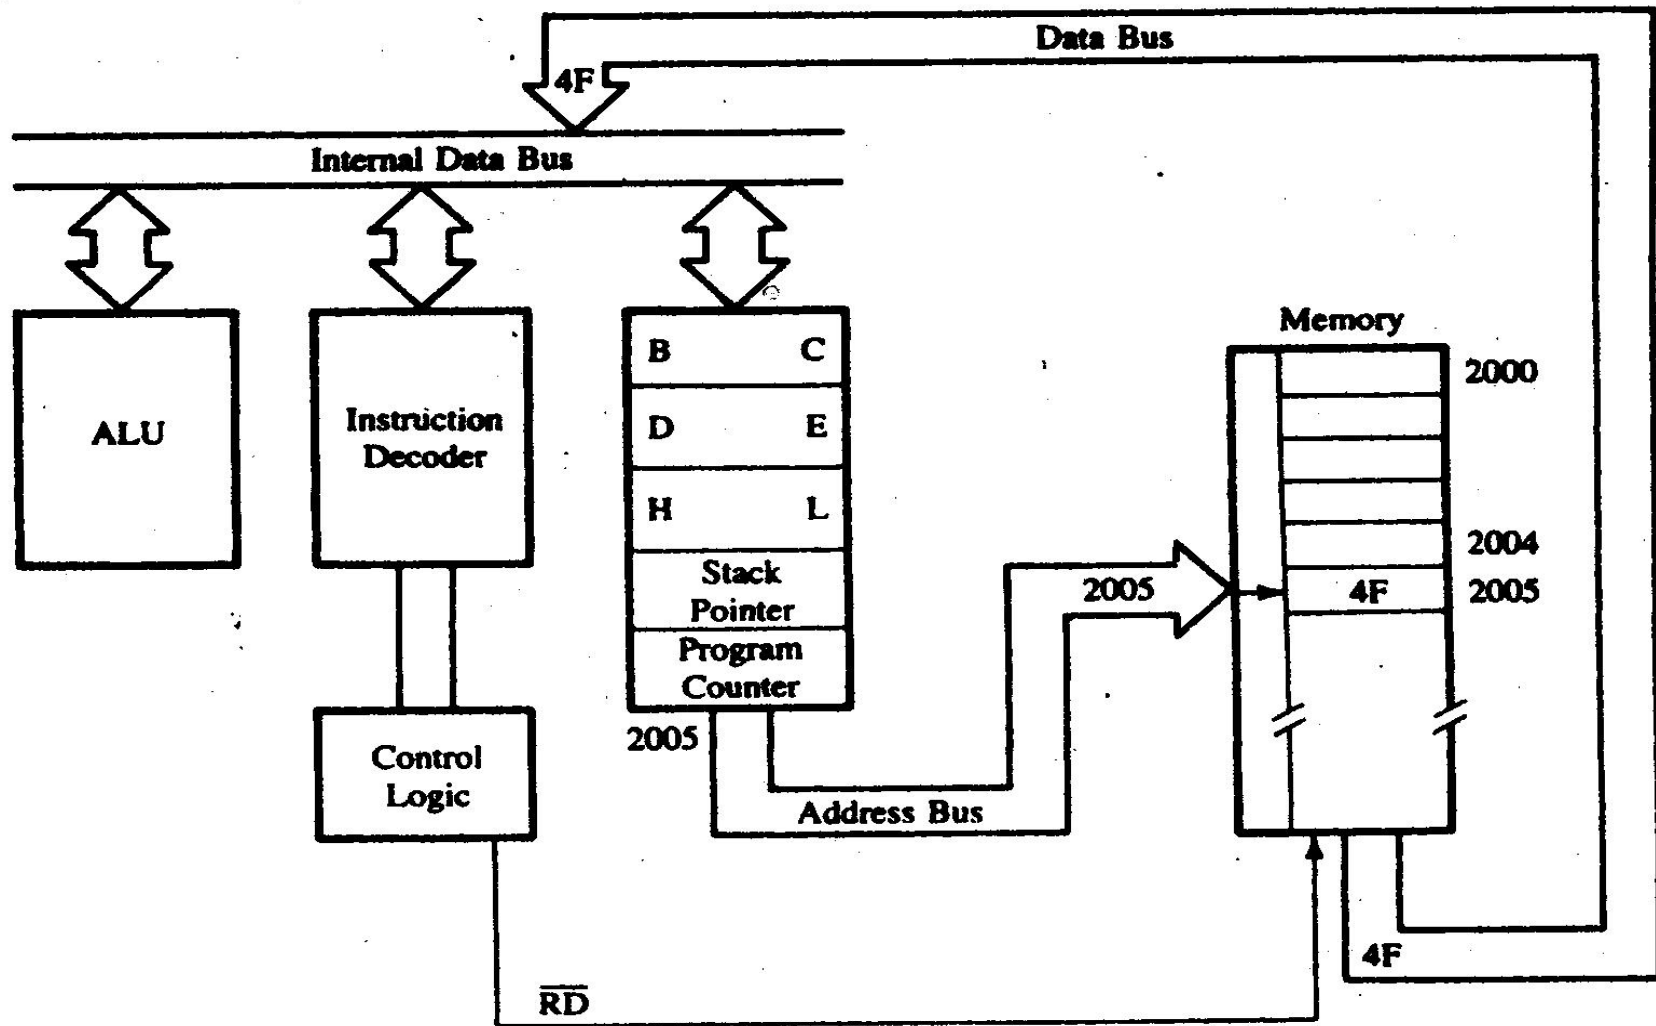

FIGURE 3.2
Step 1: The program counter places the 16-bit memory address on the address bus (Figure 3.2).
Step 2: The control unit sends the control signal \overline{RD} to enable the memory chip (Figure 3.2).